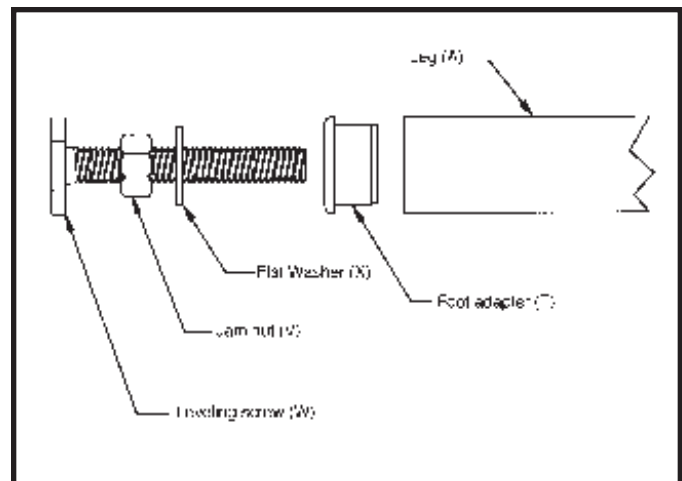

Fig. 5
3. Before assembling the legs to the table, insert the foot adapter (T) Fig. 5, into the bottom of each leg (A). Assemble the 3/8-16 jam nut (V) approximately 3/4 of the way onto leveling screw (W) and place a flat washer (X) over the jam nut (V) as shown in Fig. 5. Thread the leveling screw (W) into foot adapter (T); height adjustments can be made later.